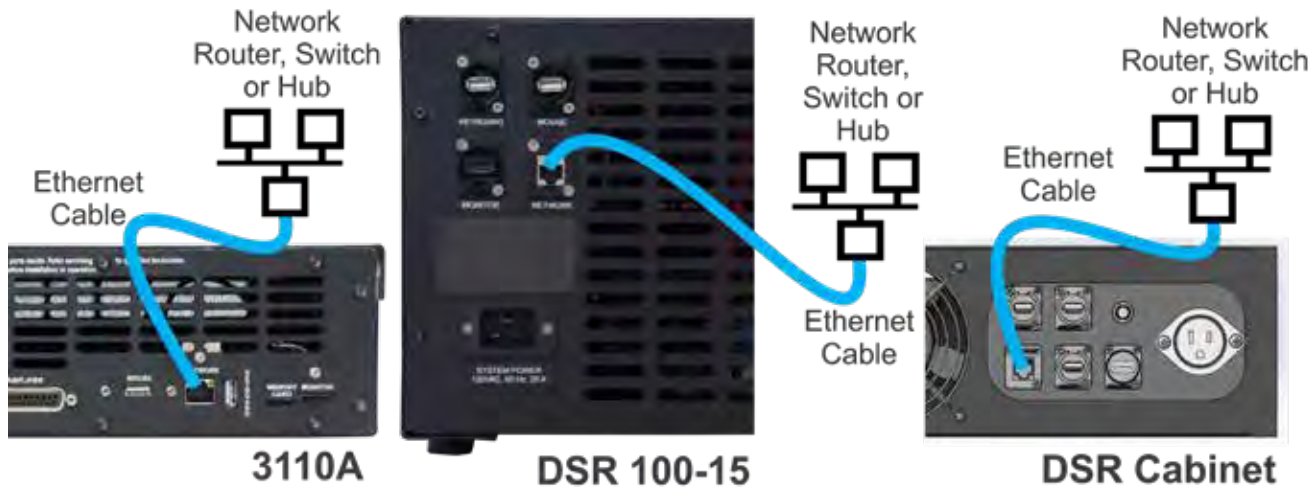

Figure 4.2 – Connecting the 3110A or DSR system to an Ethernet network
- system and your network hub, router or switch, as shown in **Figure 4.2**.